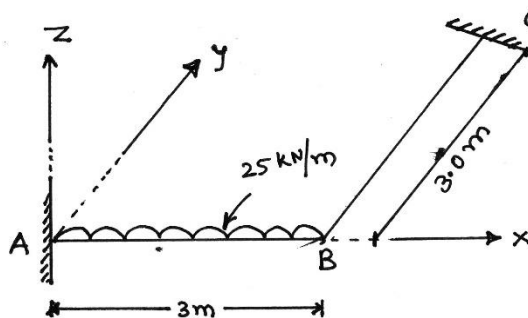

Fig. 5
6. Analyse the plane grid shown in fig. 5 using direct stiffness method.